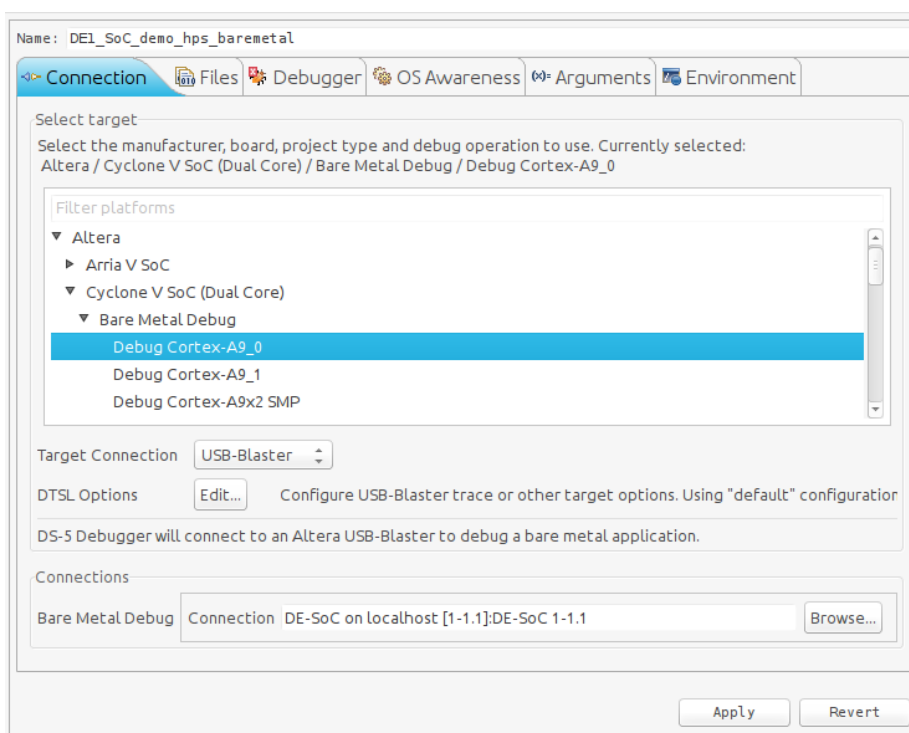

Figure 12-5. Debug Configuraton "Connection" Tab
- d. You should have something similar to Figure 12-5.